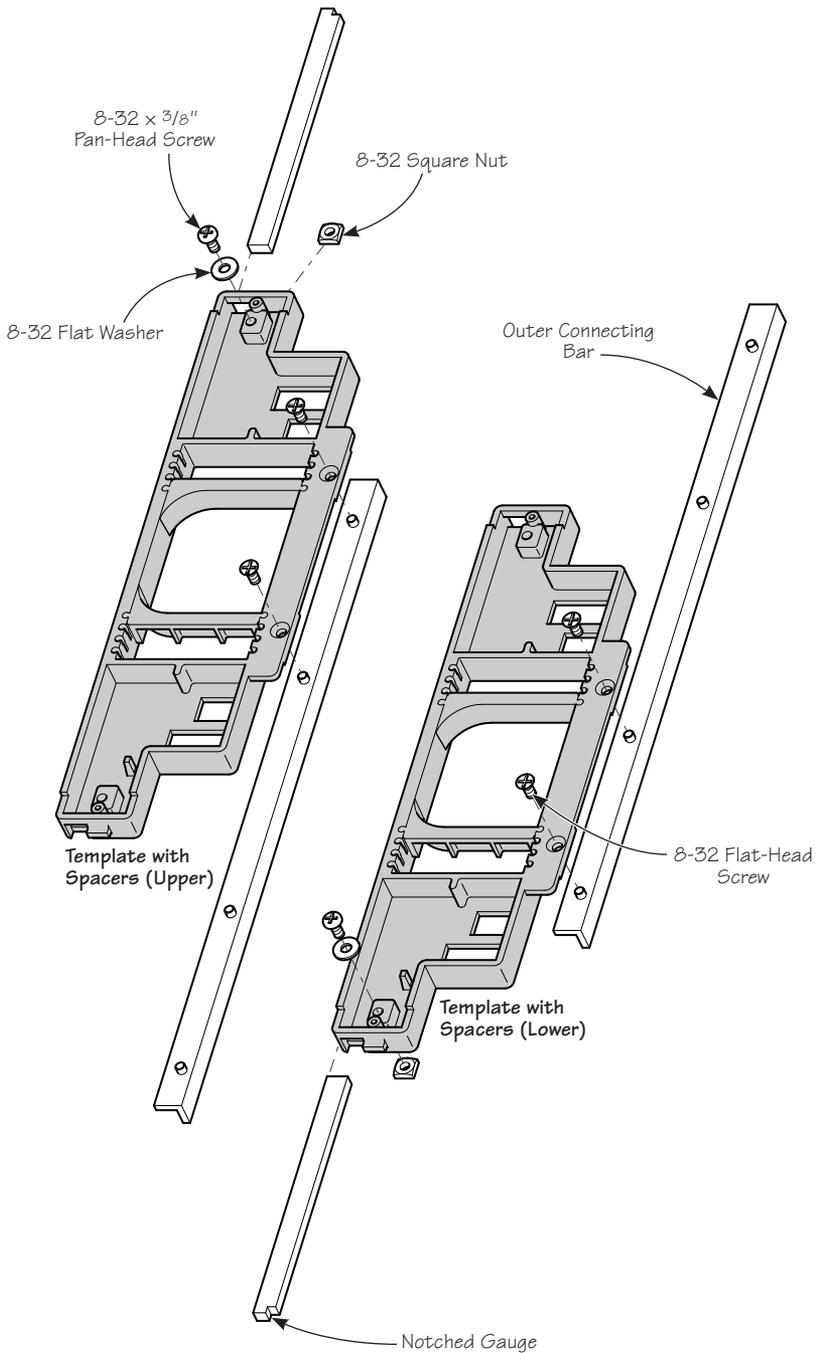

Figure 4: Attaching the upper and lower templates to the short connecting bars.
2. Attach the upper and lower templates to the short connecting bars, as shown in **Figure 4**.